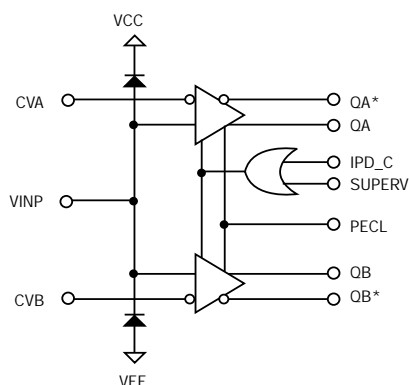

Figure 9. Block Diagram of the Edge720's Window Comparator
The Edge720 features two on-chip comparators that are connected to form a window comparator. This window comparator can be used to determine whether an input signal at VINP is within a threshold window determined by the CVA and CVB pins. The comparator on the Edge720 is a variant of the comparator on the Edge710 and has been specifically designed to improve resistance to breakdown at super voltage levels. A block diagram of the Edge720's window comparator circuit can be seen in Figure 9.
VINP is a high impedance analog voltage input pin that is used to read a desired voltage signal. VINP is internally connected to the non-inverting inputs of both on-chip comparators (as seen in Figure 9). VINP is also connected to two internal over-voltage diodes that are connected to VCC and VEE. These diodes are sized to handle up to 100 mA of current. CVA and CVB are high impedance analog voltage inputs that are used to set the threshold levels of the window comparator. Although CVA(B) are high speed inputs, they do not require bypassing as long as the source impedance is not inductive (which can happen with a long, narrow PCB trace). If needed, small (≈ 100 pF) capacitors can be connected between the CVA(B) pins and GND to ensure stability and low noise.